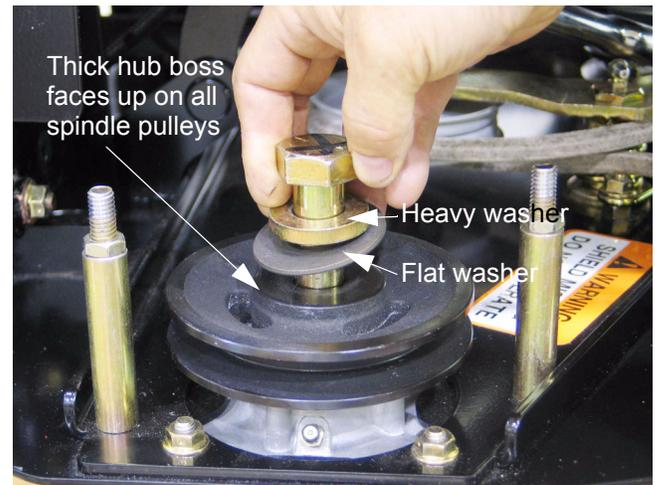

Figure 5.5
- 5.5. Withdraw the spindle bolt and washers, and remove the pulley. See Figure 5.5.